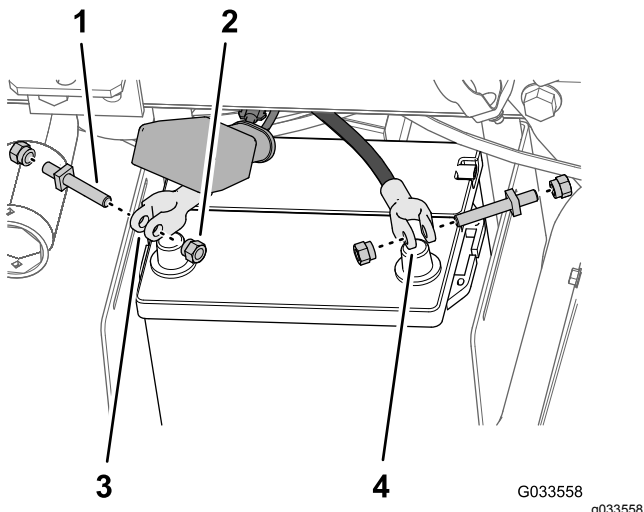

Figure 30
5. Loosely assemble a terminal bolt and a clamp nut to the positive and negative battery-cable clamps (Figure 30).